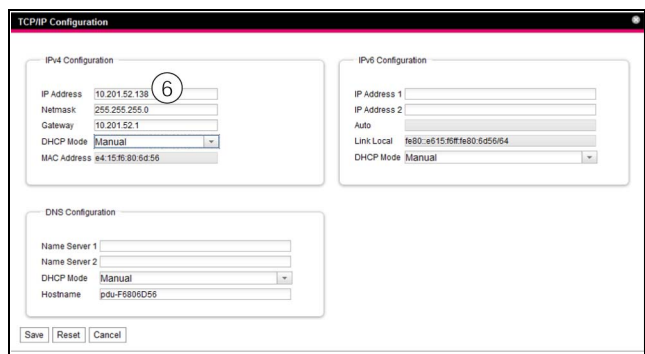

Fig. 19: Customise the TCP/IP settings
- In the **TCP/IP Configuration** window, change the device's IP address in the **IPv4 Configuration** group box to an address permitted in the network (fig. 19, item 6).